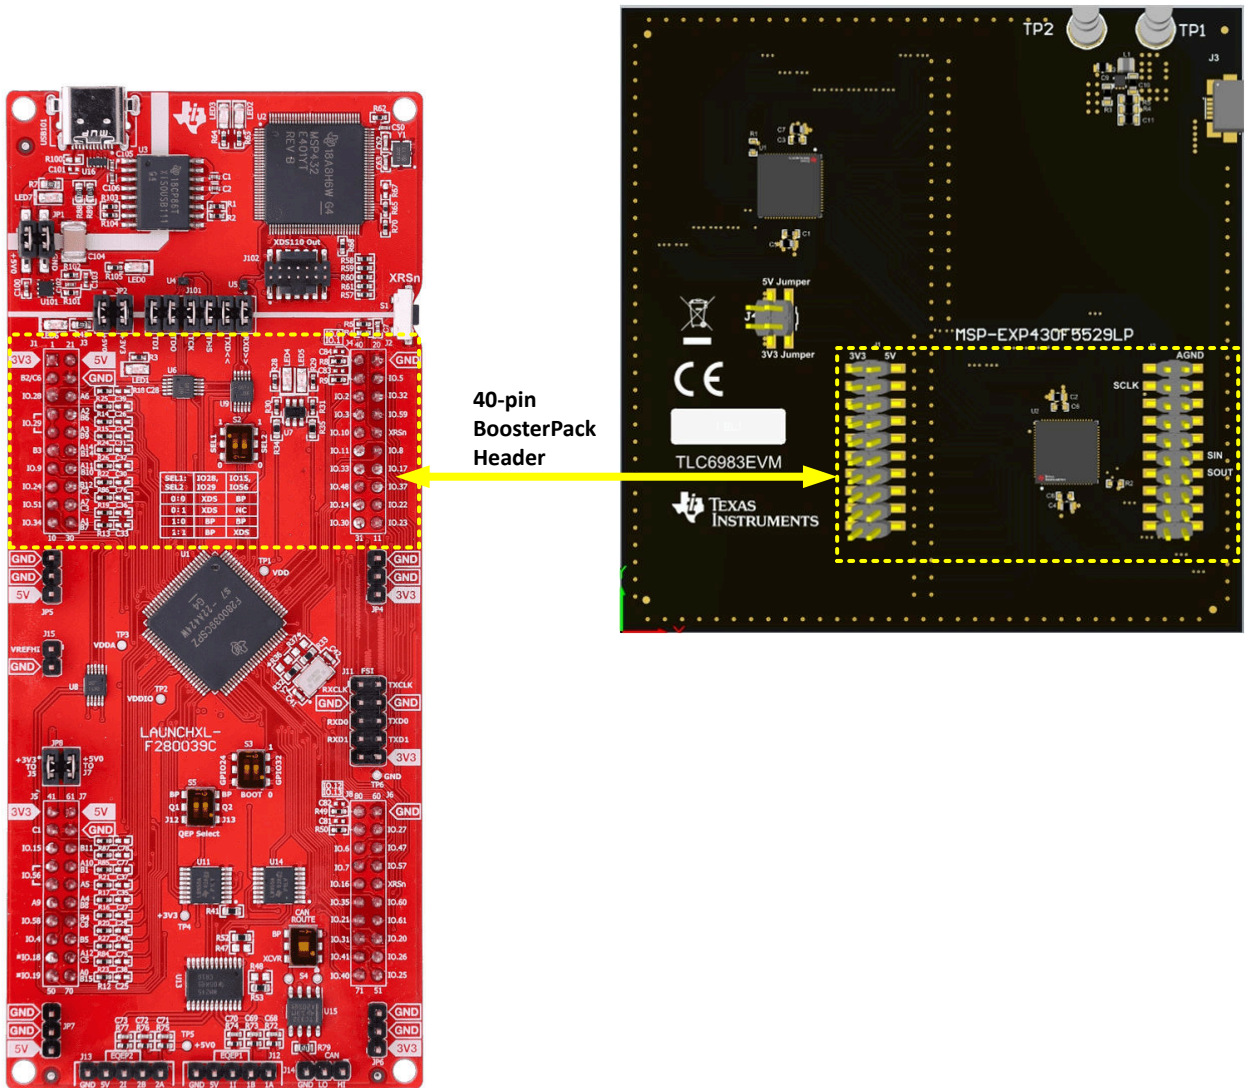

Figure 4-1. TLC6983EVM and TMS320F280039C LaunchPad
- a. Download the code to TMS320F280039C LaunchPad with TI Code Composer Studio software. Figure 4-1 shows the connection method.
- b. Connect boosterpack connectors (J1, J2 on EVM board) with the TMS320F280039C LaunchPad, the connection method is shown in Figure 4-1.